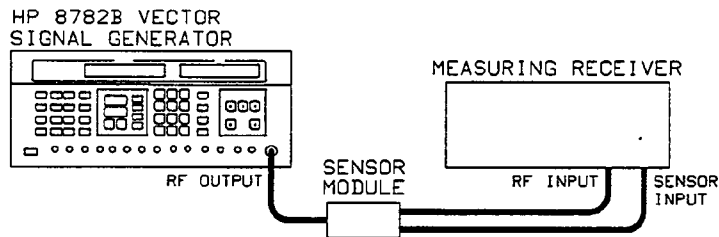

Figure 5-3. Residual FM Test Setup
1. Connect the equipment as shown in Figure 5-3. Set the test equipment to setting in the table above.